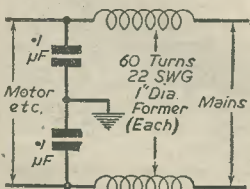

Fig. 1.—Circuit details of a simple mains interference suppressor.
Of mains-borne interference, that is interference voltage present on the house mains wiring, the most common source is probably the household vacuum cleaner. Suppression of the interference at the source is, of course, the ideal solution, but so often impossible, because the source happens to belong to someone else. A simple filter of the type shown in Fig. 1 will usually provide the cure. If the trouble lies in sparking at the brushes of a motor, a couple of .1 $\mu$ F condensers from brushes to frame will often be a useful addition. If the matter has to be tackled from the receiver end, a filter of the type shown should be inserted in the mains lead close to the mains transformer.
**T**RUE amplitude modulation as generally understood is a result of adding a third carrier frequency, giving the wave of Fig. 1 (b).